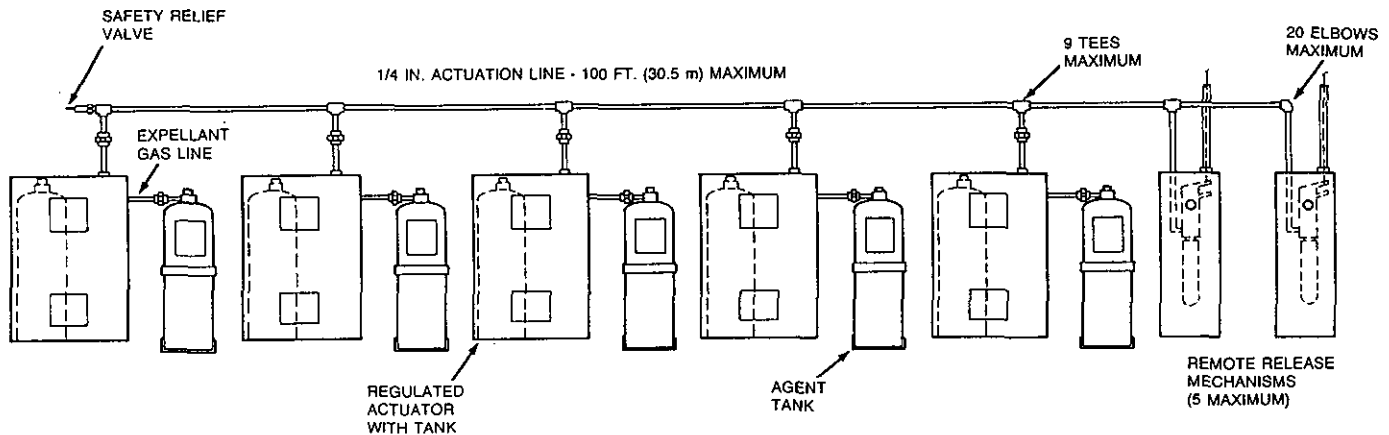

FIGURE 12
The maximum length of the actuation gas line from the remote release to all regulated actuators **must not** exceed 100 ft. (30.5). See Figure 12.
2. A maximum of nine tees and twenty elbows are allowed in the actuation piping. Two 45° elbows equal one 90° elbow. See Figure 12.
3. A safety relief valve (Part No. 15677) must be installed in the actuation piping. See Figure 12.